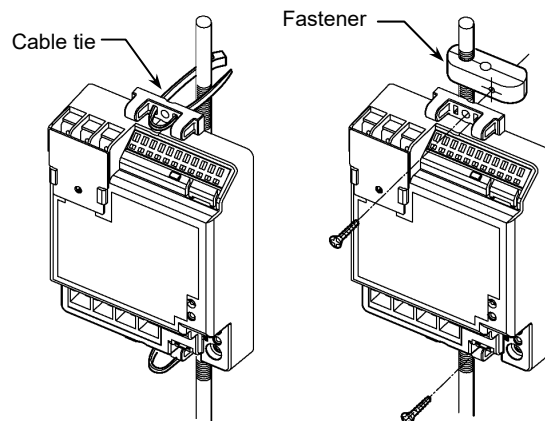

Figure 8. Mounting Inflex FC on a threaded rod
- 3) To mount Inflex FC on a threaded rod ($\phi 9 \text{ mm}$) in the ceiling, use two cable ties. Put a cable tie through two holes on the bilateral sides of the M4 screw hole on a screw tab. Instead of cable ties, two fasteners can be used to mount Inflex FC on the threaded rod. Refer to Fig. 8 for mounting with cable ties / fasteners.